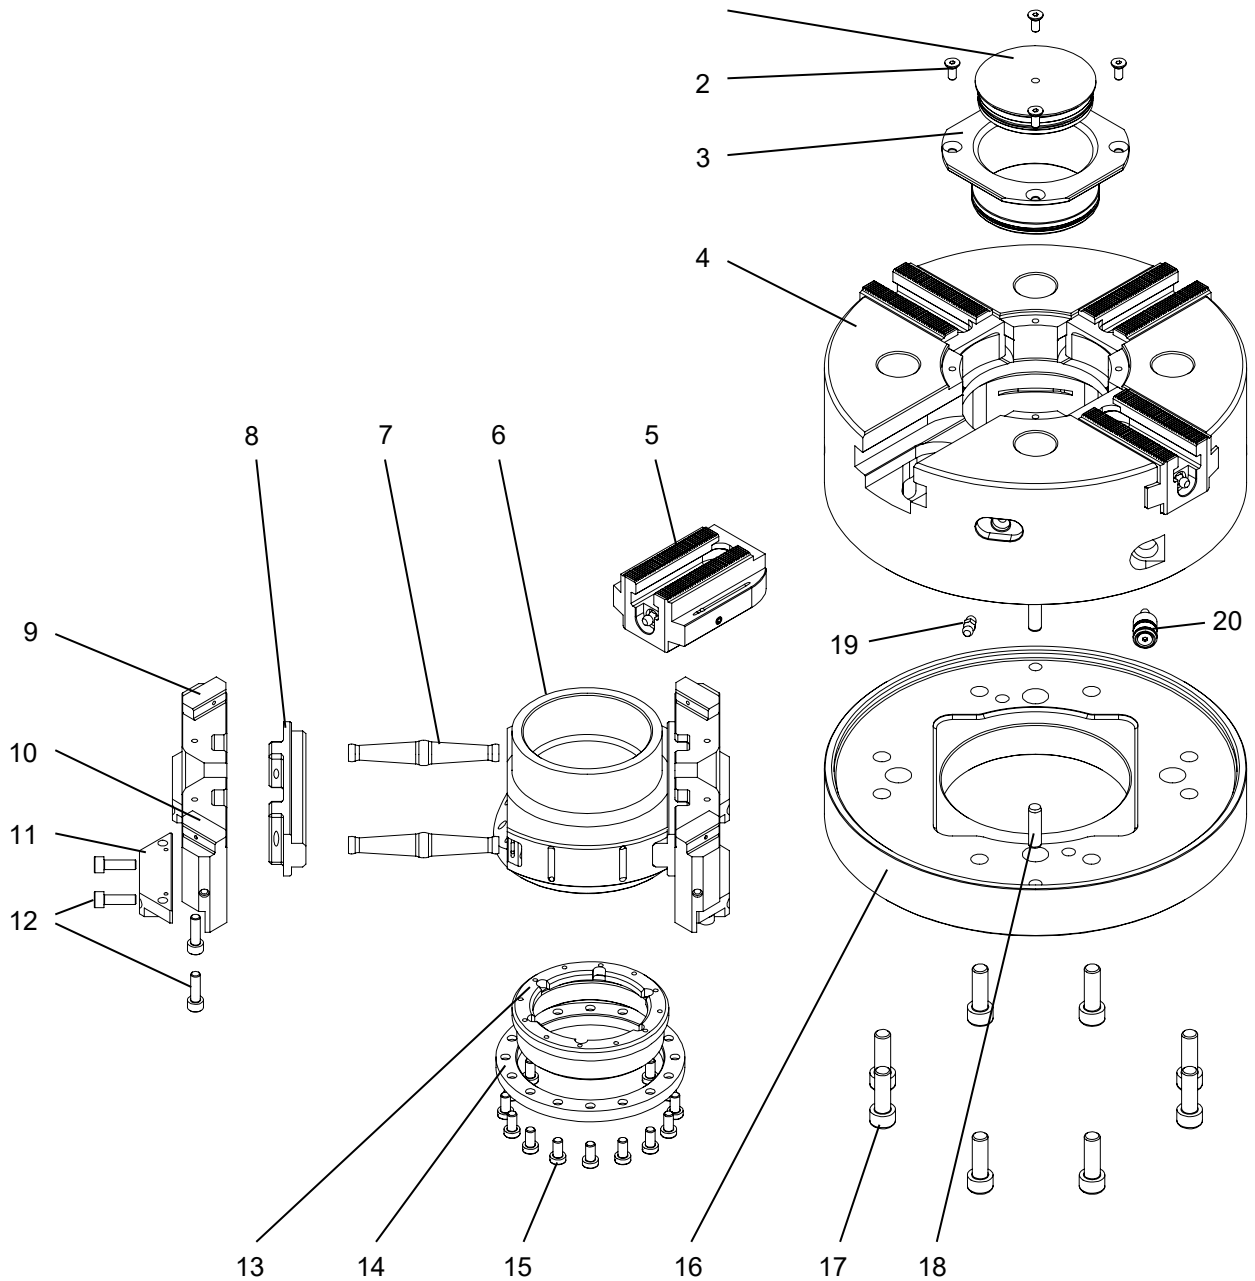

Fig. 8-1: Spare parts
- Step 1** Look for the desired part in figure 8-1.
Step 1 Look for the desired part in figure 8-1.